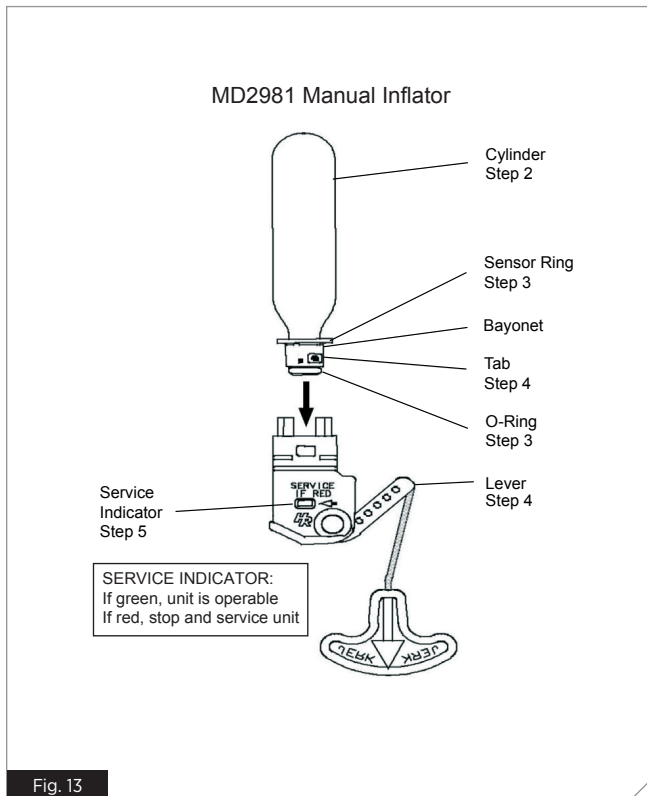

Fig. 13
1. Unpack or open the Inflatable PFD so that the inflator is exposed (Fig. 13).
5. Examine the service indicator (Fig. 13) and ensure it is **GREEN**. If the service indicator is red, the mechanism has been fired or is incorrectly fitted and the inflator requires service. (See Re-arming Your PFD (MD2981), p. 14).